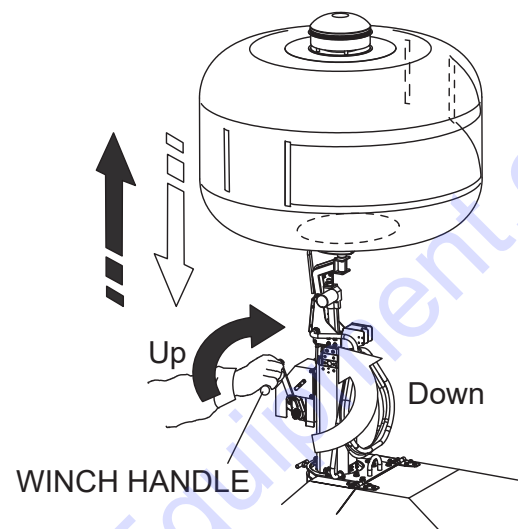

Figure 13. Extending the Mast
2. Turn the mast winch clockwise to raise the mast and observe that the mast begins to extend upwards (Figure 13).